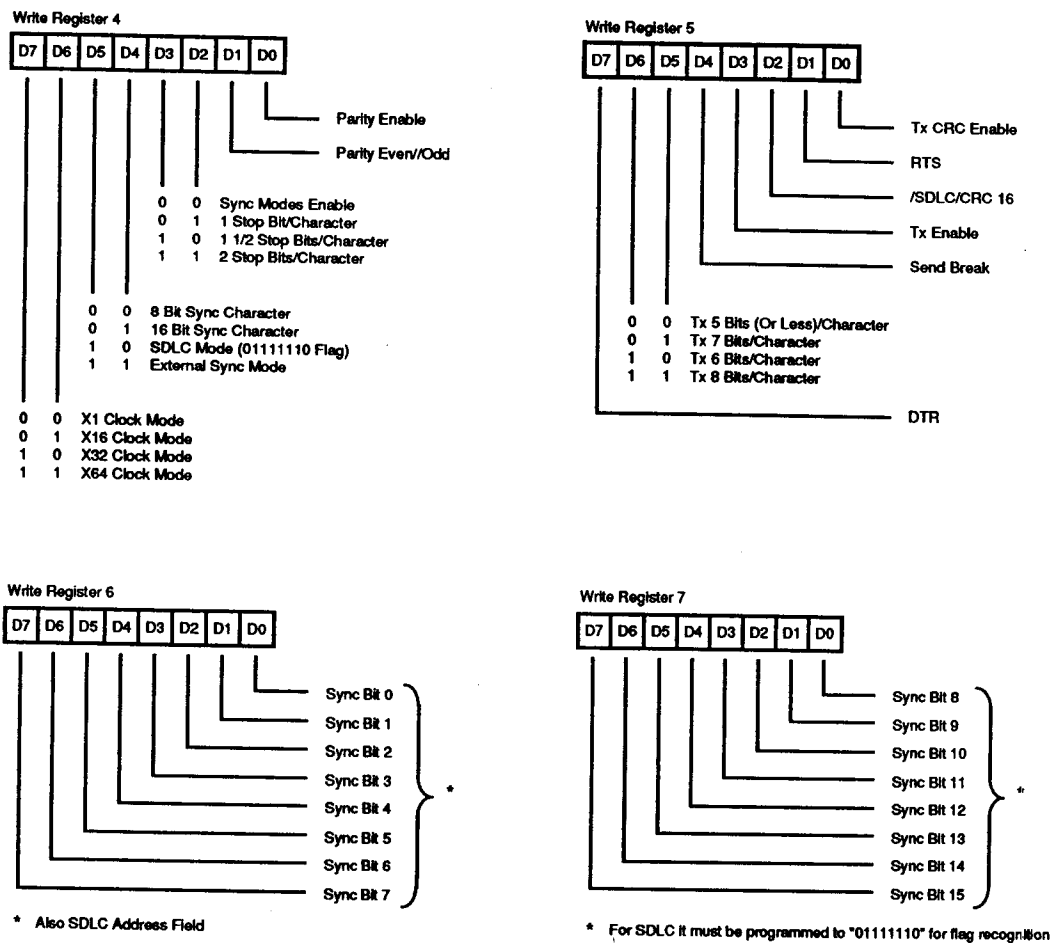

Figure 21. SIO Write Registers (Continued)
**Write Registers.** The SIO Channel B contains eight write registers while Channel A contains only seven that are programmed to configure the operating mode characteristics of each channel. With the exception of WR0, programming the write registers is a two step operation. The first operation is a pointer written to WR0 which points to the selected register. The second operation is the actual control word that is written into the register to configure the SIO channel (Figure 21).